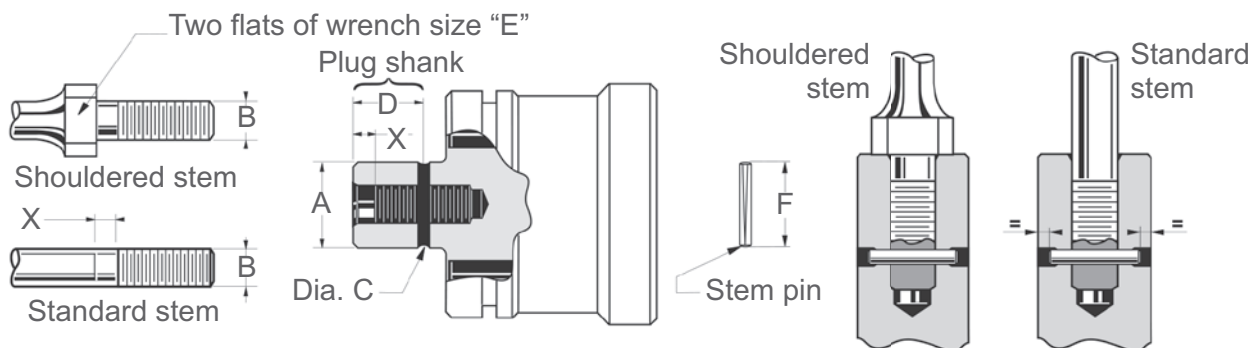

Figure 4 - Plug Stem Marking
Make a reference mark on the valve plug stem at a distance "X" (Table 1 and Figure 4), equivalent to the stem recess in the valve plug.
6.1.3 Drilling the pin hole (Table 1 and Figure 4)